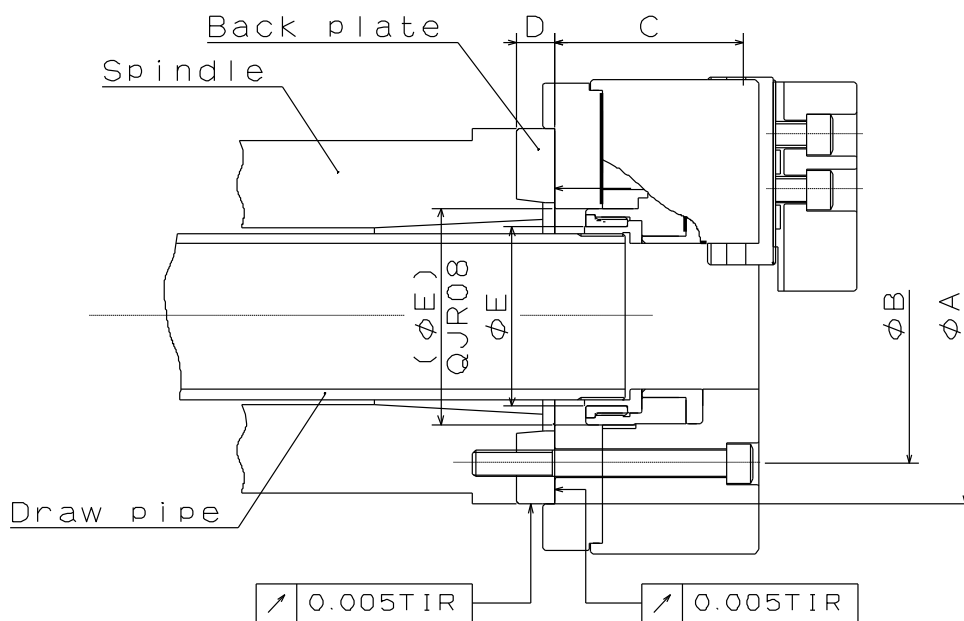

Fig.17
- Fig.17 shows the case of the JIS short taper standard.